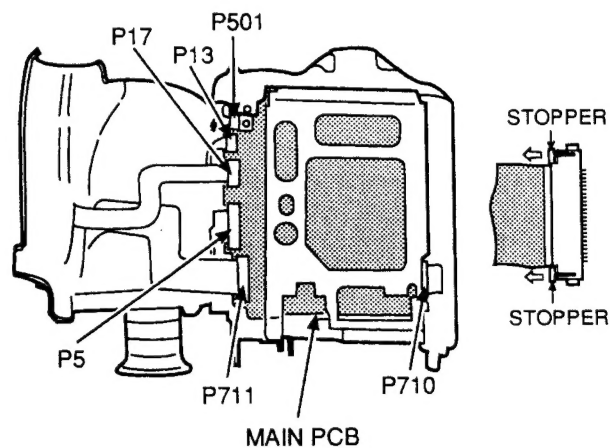

Fig.1-7
2. Disconnect the P501 connector as shown in Fig.1-7
1. Unlock the stopper of the P710 connector as shown in Fig.1-7 and disconnect the FPC cable.
2. Remove the (A) and (B) screws which retain the OPERATION A BLOCK and remove it.
2. Unlock the stopper of the P5 connector on the MAIN PCB located on the bottom and disconnect the FPC cable as shown in Fig.1-7.
3. Remove the ① screw on the rear of the chassis.